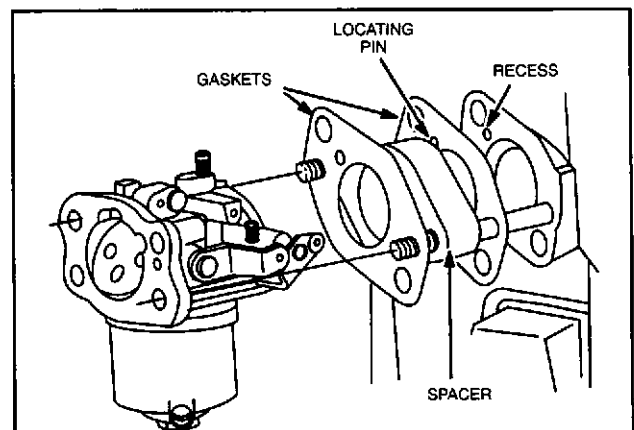

Fig. 81A - Installing Carburetor (Current Style)
**Current style:** Assemble gaskets and spacer to manifold as shown in Fig. 81A. Make sure that locating pin on carburetor spacer fits in recess in manifold. Assemble carburetor onto mounting studs.